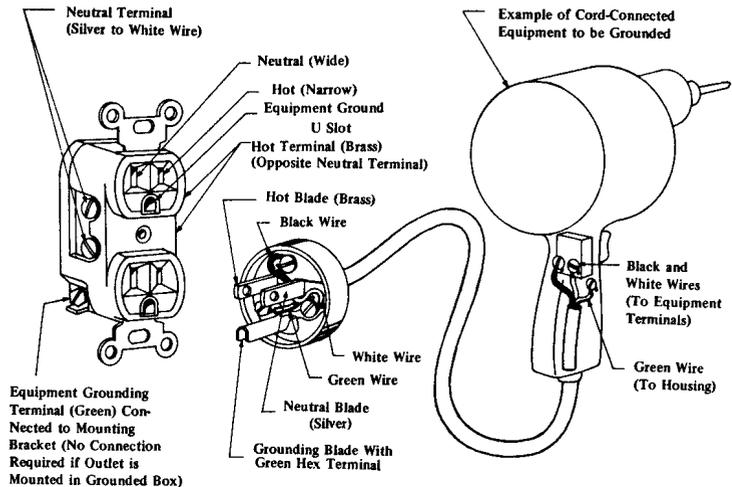

FIGURE 5. Wiring of 125-volt Standard Plug and Receptacle.
4.01 *3-Wire Grounding Type Receptacles*—The most satisfactory method of providing an effective ground is through the connection of a 3-blade plug to a comparable 3-wire receptacle. See Figure 5.